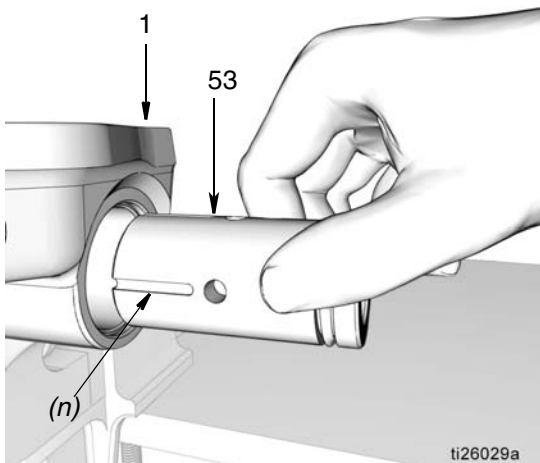

FIG. 44
- c. Install the pump element sleeve (53) in the pump base (1). To determine the correct installation orientation, refer to FIG. 44.